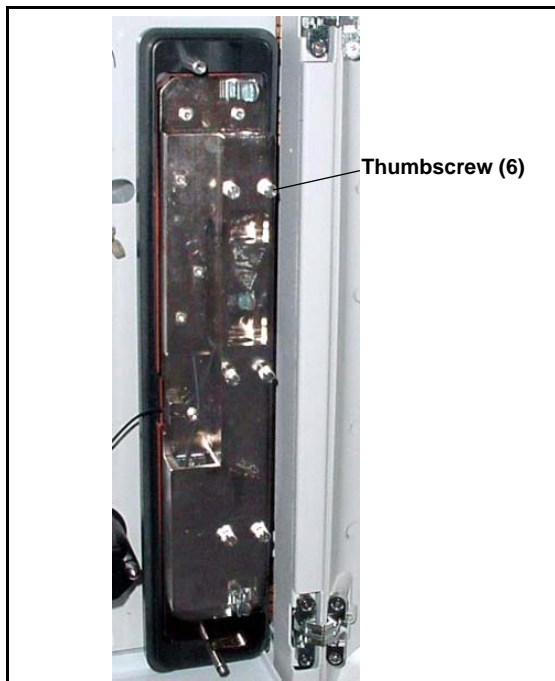

Figure B-21. ICS-2000 Column Heater Cover Removed
4. Unscrew the six thumbscrews on the top metal plate (see Figure B-21) and remove the plate.